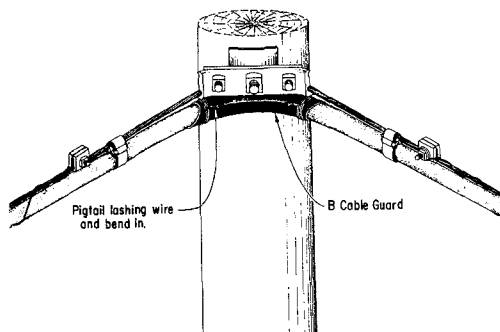

Fig. 16—B Cable Guard Installed Where Lashing Wire Is Terminated
- (c) At corner locations where the lashing wire has been terminated, secure the B Cable Guard with 3 turns of lashing wire at each end of the guard as shown in Fig. 16.